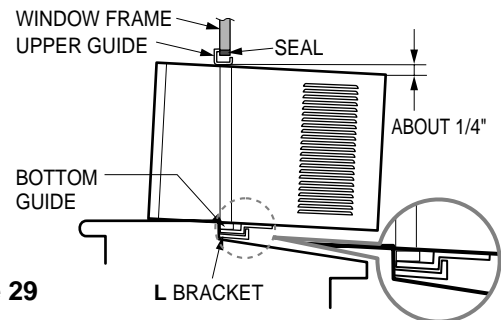

Figure 29
- While steadying the air conditioner, carefully bring the window sash down behind the upper guide of the air conditioner, as shown in Figure. 29.